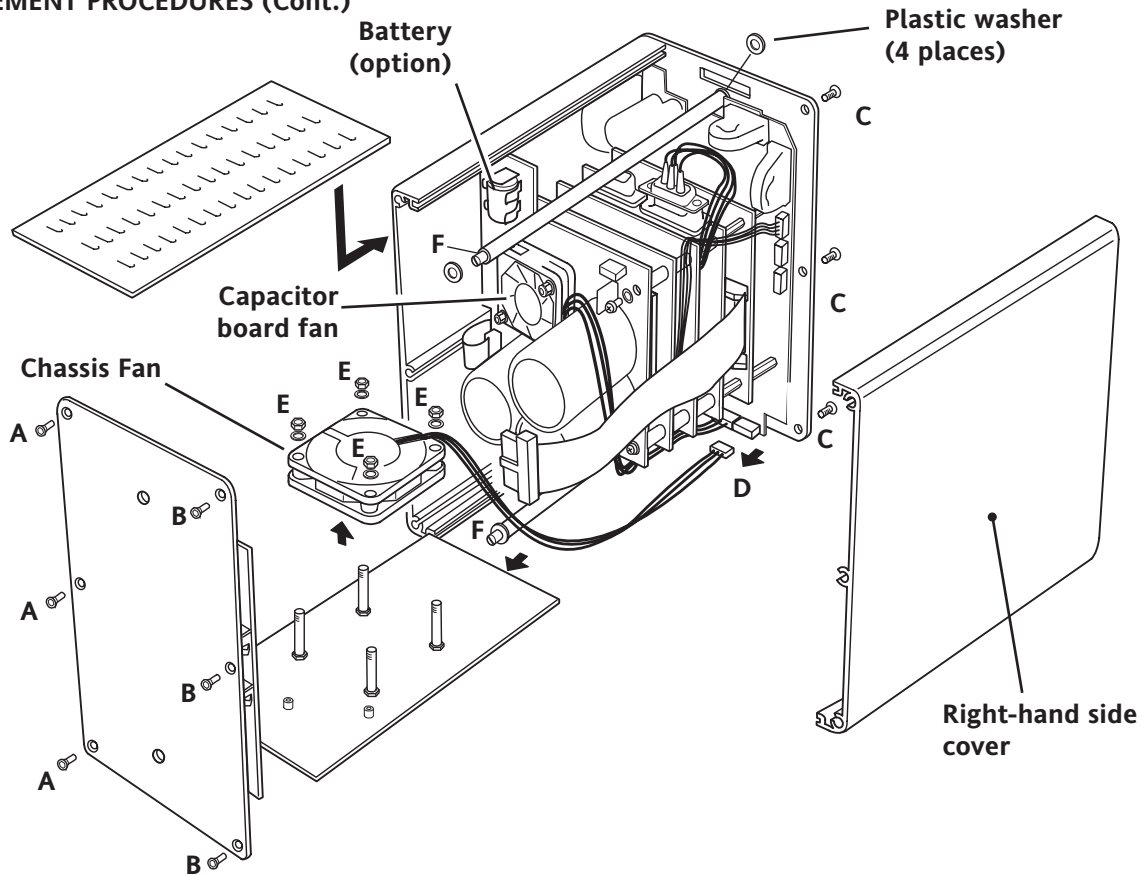

Figure 8.2 Processor module - part explosion
Figure 8.2 is a partial exploded view of the processor unit. The drawing shows one side plate removed, for clarity, but this is not always necessary for the procedures below.
3. Lay the module on its left-hand side, and slide the lower panel (containing the external fan) out, disconnecting the fan connector ('D' in figure 8.2 above) as it becomes accessible.
2. Undo the six Torx-headed screws 'B' and 'C' (figure 8.2) and remove the right-hand side cover.
5. Remove the four securing screws 'G', and carefully remove the capacitor board, disconnecting the ribbon cable connector (H) and the fan connector (J) when accessible.
6. Removed the fan by undoing the two M3 nuts and bolts (K) that secure it to the circuit board.
2. Undo the six Torx-headed screws (B and C in figure 8.2) which secure the right-hand side cover to the front and back plates, and remove the right-hand side cover.
3. The location of the battery (on the capacitor board) is as shown in figures 8.2 and 8.2.3.